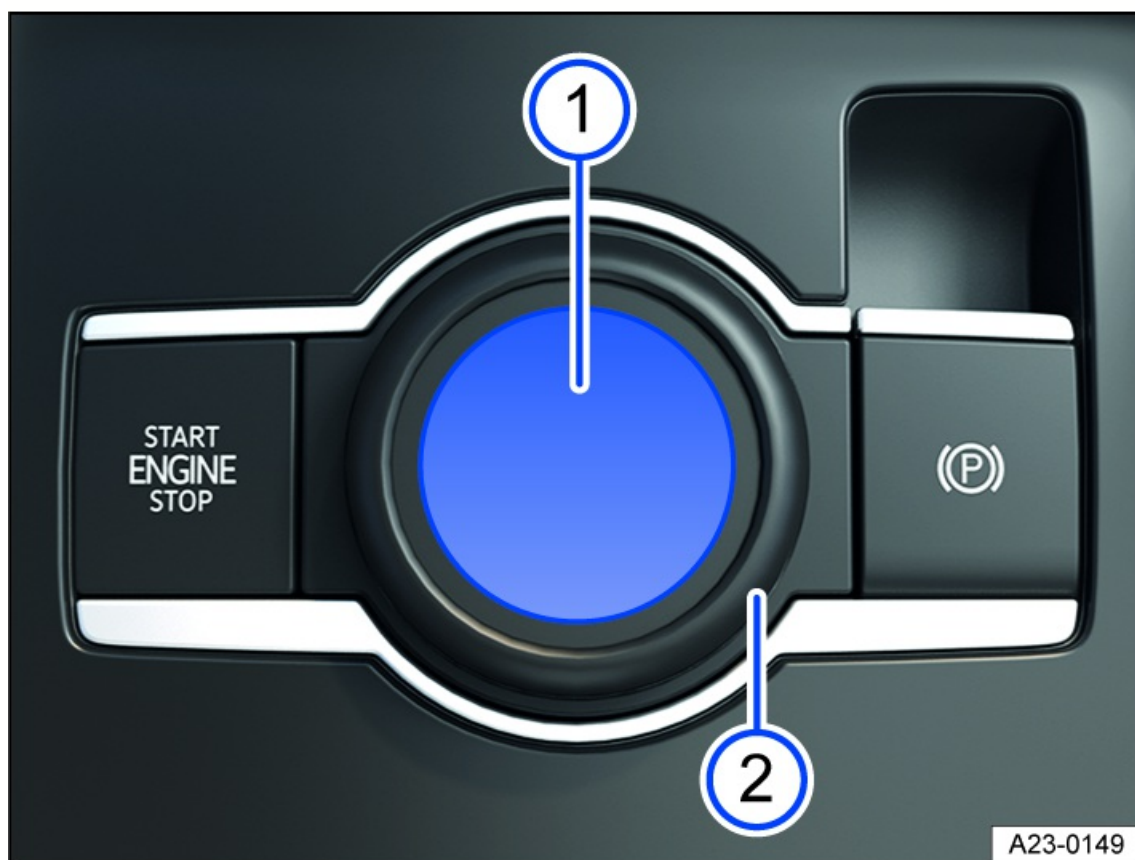

Fig. 15 In the center console: Control for Driving Mode Selection.
1. Press the control fig. 15.
3. Turn the dial fig. 15 until the desired atmosphere is selected.